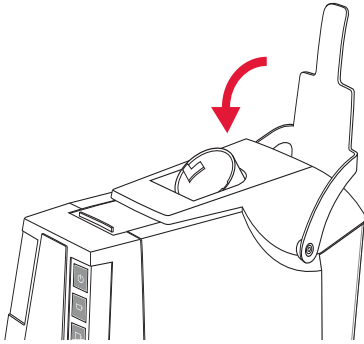

Figure 5
6. Close the handle. See figure 5.